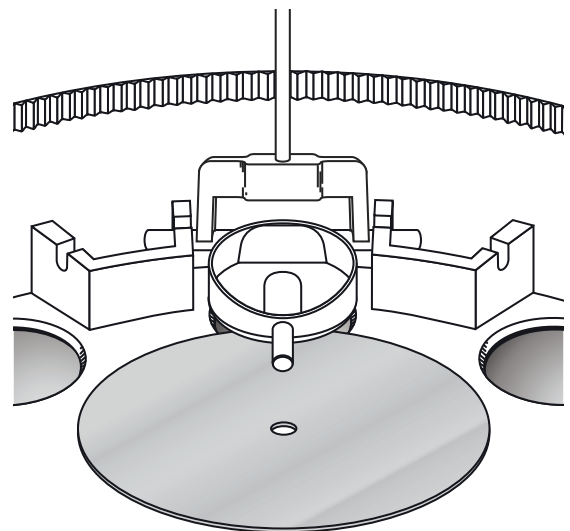

Figure 19
5. Place the forked ends of the T-valve Installation Tool on the pins resting on the outside of the notches (Figure 19). With a mallet, firmly tap the top of the installation tool, driving the pins down into the notches until they are fully seated. Test the assembly to make sure it raises and lowers freely.